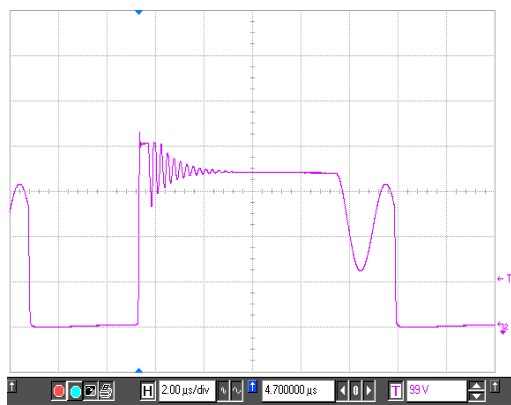

Figure 47. Typical Drain Voltage Waveform of a Flyback Main Switch
- In a single stage converter, one FET processes all the power – that is both a benefit and a limitation as the stress on that main MOSFET is relatively higher. Similarly, the magnetic component (flyback transformer/inductor) can not be optimized as well as in the 2-stage solution. As a result, potentially higher leakage inductance induces higher voltage spikes (like the one shown in Figure 47) on the MOSFET drain. This may require a MOSFET with a higher voltage